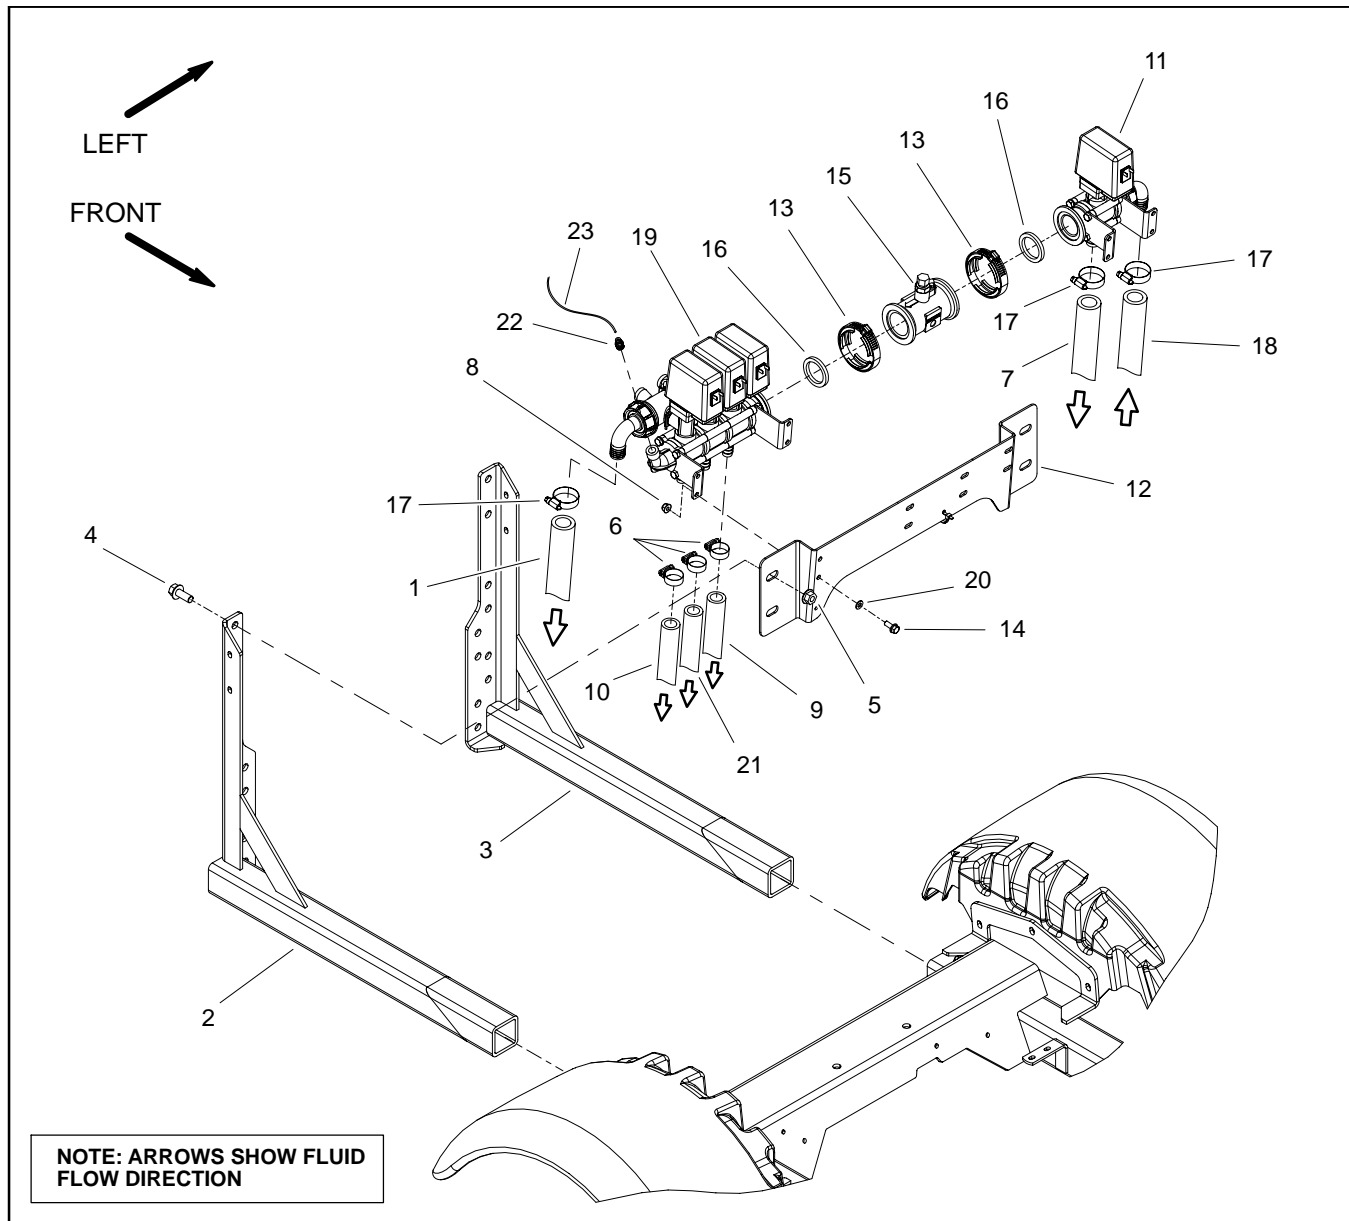
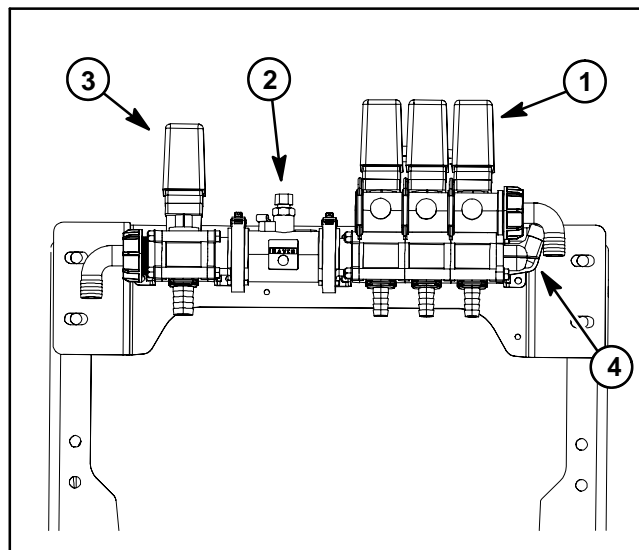
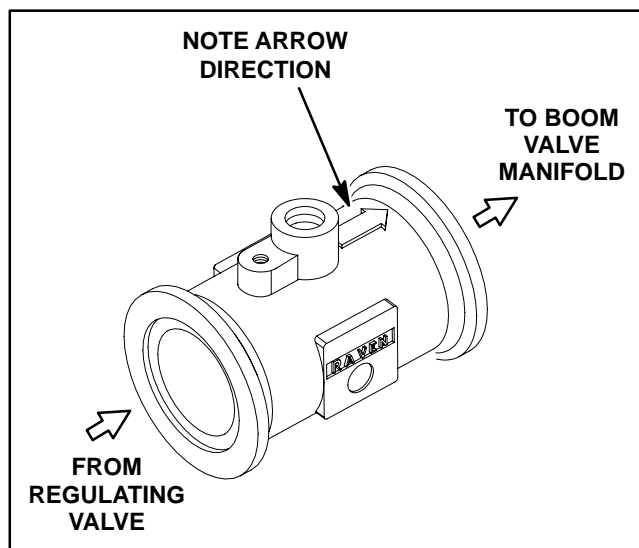

Figure 39
Figure 40
Figure 41
Removal (Fig. 39)
3. Label all wire harness leads for assembly purposes. Disconnect wire harness connectors from regulating valve, flowmeter and three (3) boom valve motors.
4. Remove pressure gauge tube from coupler on pressure gauge port on right side of boom valve manifold assembly (Fig. 40).
6. Remove eight (8) flange head screws, flat washers and flange nuts that secure spray control assembly to valve mount. Remove spray control assembly from machine.
IMPORTANT: Before removing flowmeter from spray control assembly, note direction of arrow on top of flowmeter (Fig. 41). The arrow should point toward boom valve manifold assembly.
7. Separate spray control assembly as required using Figure 39 as a guide. Discard all removed gaskets.
Installation (Fig. 39)
1. Assemble spray control using Figure 39 as a guide. Replace all removed gaskets. Make sure that arrow on flowmeter body points toward boom valve manifold assembly (Fig. 41).
2. Position spray control assembly to valve mounting bar and secure with eight (8) flange head screws, flat washers and flange nuts.
4. Install pressure gauge tube to coupler on pressure gauge port on right side of boom valve manifold assembly (Fig. 40).
5. Using labels placed during disassembly, secure wire harness connectors to regulating valve, flowmeter and three (3) boom valve motors.